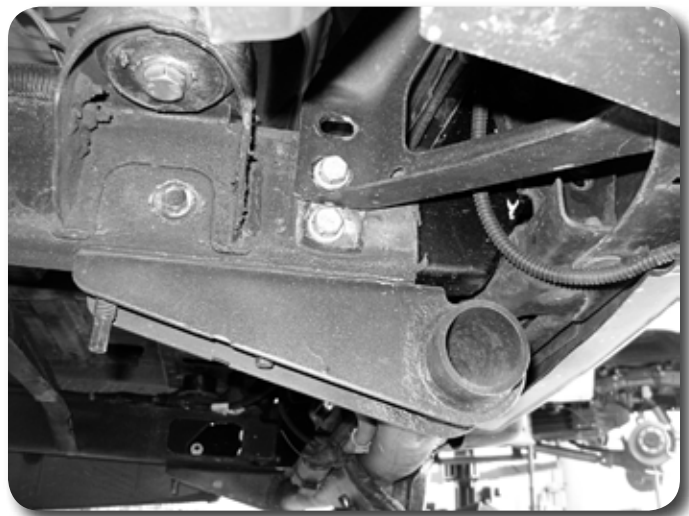

Figure 21
47. Slide the bumper on the truck until the bolt holes in the sides of the frame line up with the bracket. Line up the spare tire winch tubes as the bumper is slid on. Get the OE bolts started through the holes but do not tighten. Use the provided nuts and washers with the factory bolts. The side supports will now mount using only the lower hole. **Figure 21**